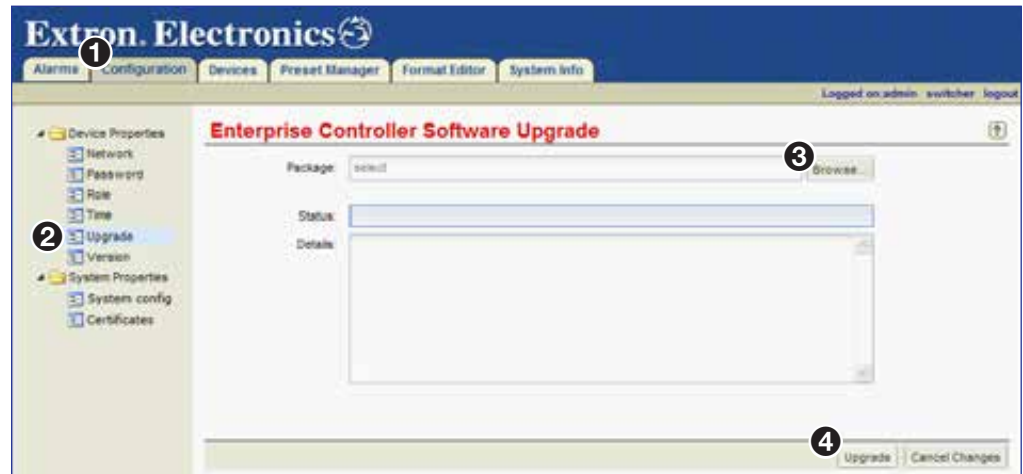

Figure 158. Configuration Page — Single EC 201
1. Click the **Configuration** tab (see figure 158, ❶).